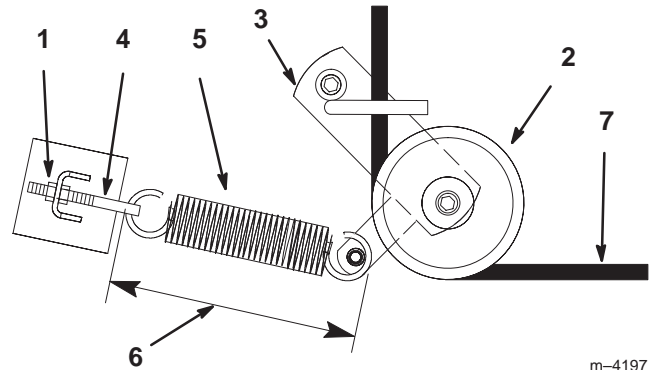
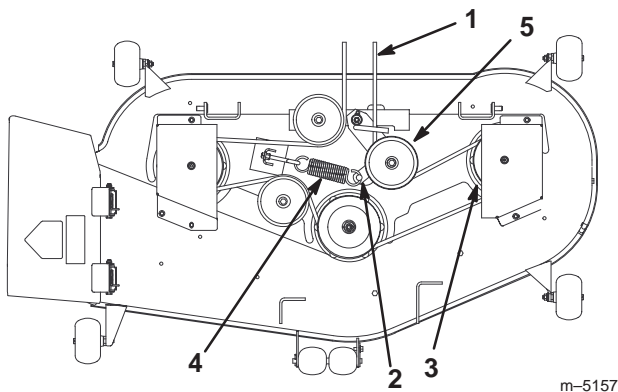

Figure 44
Figure 45
4. Loosen the outer nut on the spring eye bolt (Fig. 44) enough to allow removal of the belt.
5. Remove the belt. Start at the outside pulley and rotate the belt off (Fig. 45).
6. Route the new belt through the idler arm (Fig. 44) and onto the other pulleys (Fig. 45).
7. Tighten the outer nut on the spring eye bolt (Fig. 44).
Note: Check the spring length. The spring should measure 9-3/8 inch \pm 1/8 inch (238 mm \pm 3 mm) when installed with the height-of-cut set at 1-1/2 inch (38 mm). Adjust it if it does not (Fig. 44).